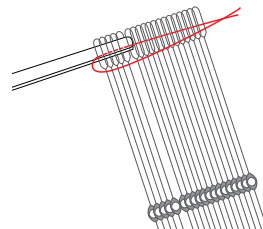

FIGURE 7: SLIDING HEDDLES ONTO HEDDLE BAR
2. Slide each group of heddles onto a pair of heddle bars (Figure 7). To make threading easier, it is important to orient the heddles in the same direction on each pair of heddle bars.